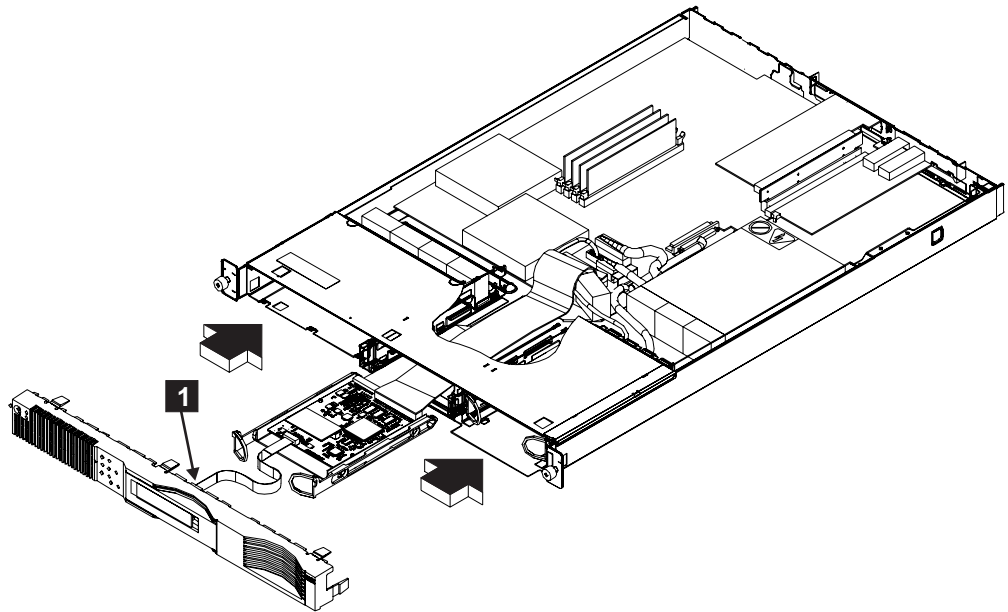

Figure 190. Replacing the front panel
1. Connect the cable **1** to the front panel. See Figure 190.